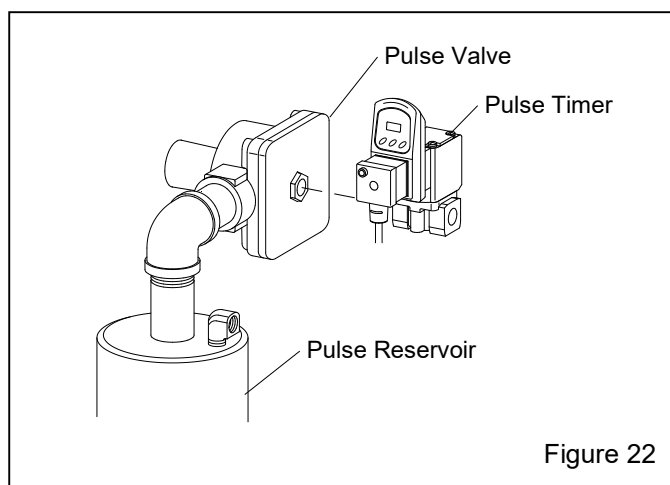

Figure 22
5.8 Digital Pulse-Control Timer – Figure 22
The pulse timer is attached to the diaphragm pulse valve located on the dust collector pulse reservoir as shown in Figure 22.